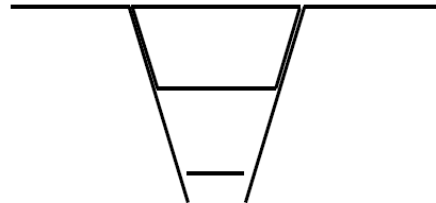

Figure 202: Biggest working diameter
3. Twist the outer ring (the outer rings for pulleys with 2 slots) to the desired diameter, observe the limits as per **Figure 202** and **Figure 203**.